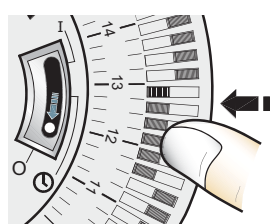
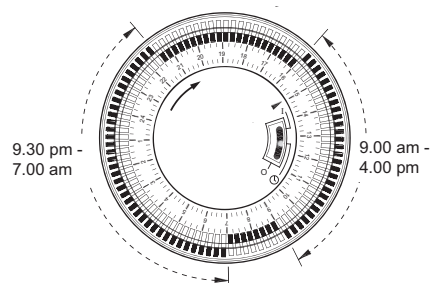

Fig. 7
Fig. 8
- Using your finger tip or the tip of a pencil, push in as many segments as necessary around the dial, according to the times you don't require heat – see Fig. 7. Each segment pushed in switches the heater OFF for that part of the hour. All other segments will be ON. For example, Fig. 8 shows the timer set to switch the heater ON between 9.00am and 4.00pm and between 9.30pm and 7.00am.